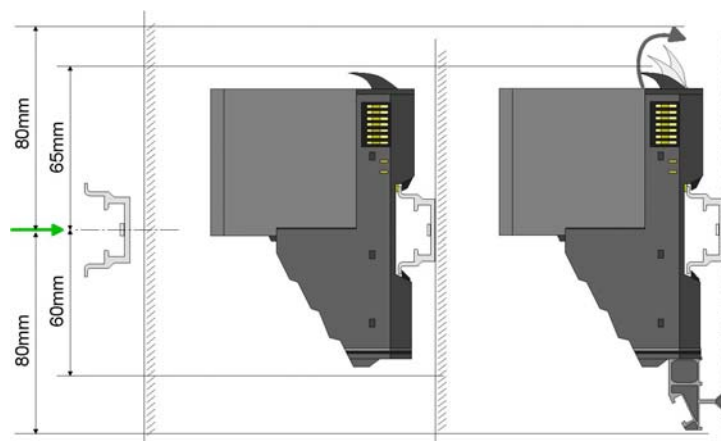

Fig. 3-7: Installation distances
- ➔ Install the DIN rail with the necessary distances (see Fig. 3-7: "Installation distances").